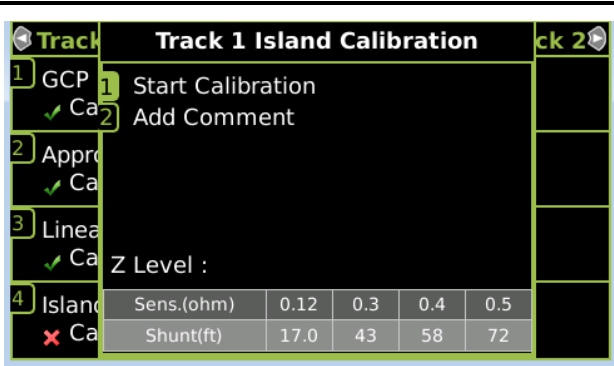
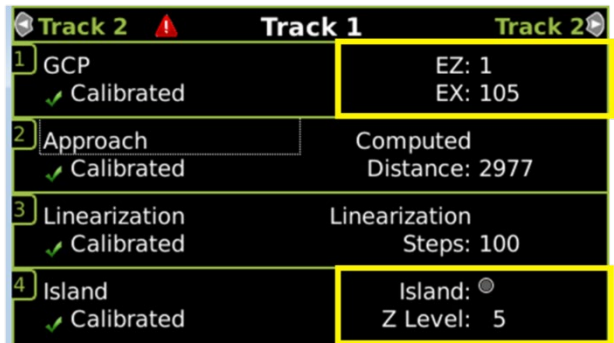

Figure 5 Island Calibration Window
Figure 6 Track Detail View EZ Level and Island Z Level
Step 23	<p>If the Linearization Steps value for the second approach (step 21, Figure 6) is greater than or the same as the Linearization Steps value recorded for the first approach (step 9, Figure 5), go to step 31. If the Linearization Steps value for the second approach (step 21, Figure 6) is less than the value recorded for the first approach (step 9, Figure 5), go to step 24.</p>
Step 29	<p>Enter the computed approach distance value recorded for the first approach (step 5, Figure 5) into the New Value field using the keypad numbers and select ENTER.</p> <ul style="list-style-type: none"> The entered value appears on 2) Approach.
Step 2	Temporarily install a hardwire shunt beyond the island receiver rail connections at the appropriate distance specified below the Calibration Required message. <ul style="list-style-type: none">• Shunt distances for island frequencies are provided in the table following the Island Calibration procedure. The appropriate ones for the configured island frequency are also shown on the calibration screen as shown in Figure 5.• Ensure EZ value is less than or equal to 5. See Figure 6.
Step 6	Following railroad policies concerning the use of jumper wires. Place a jumper wire across the RCV1 and RCV2 receiver wires at the main terminal board and verify the EZ value is less than or equal to 5. If the EZ value is greater than 5 and the jumper is confirmed to be securely connected, use additional jumper wires in parallel until an EZ less than or equal to 5 is achieved. The crossing should activate. Note the Island Z value with the jumper applied. See Figure 6.